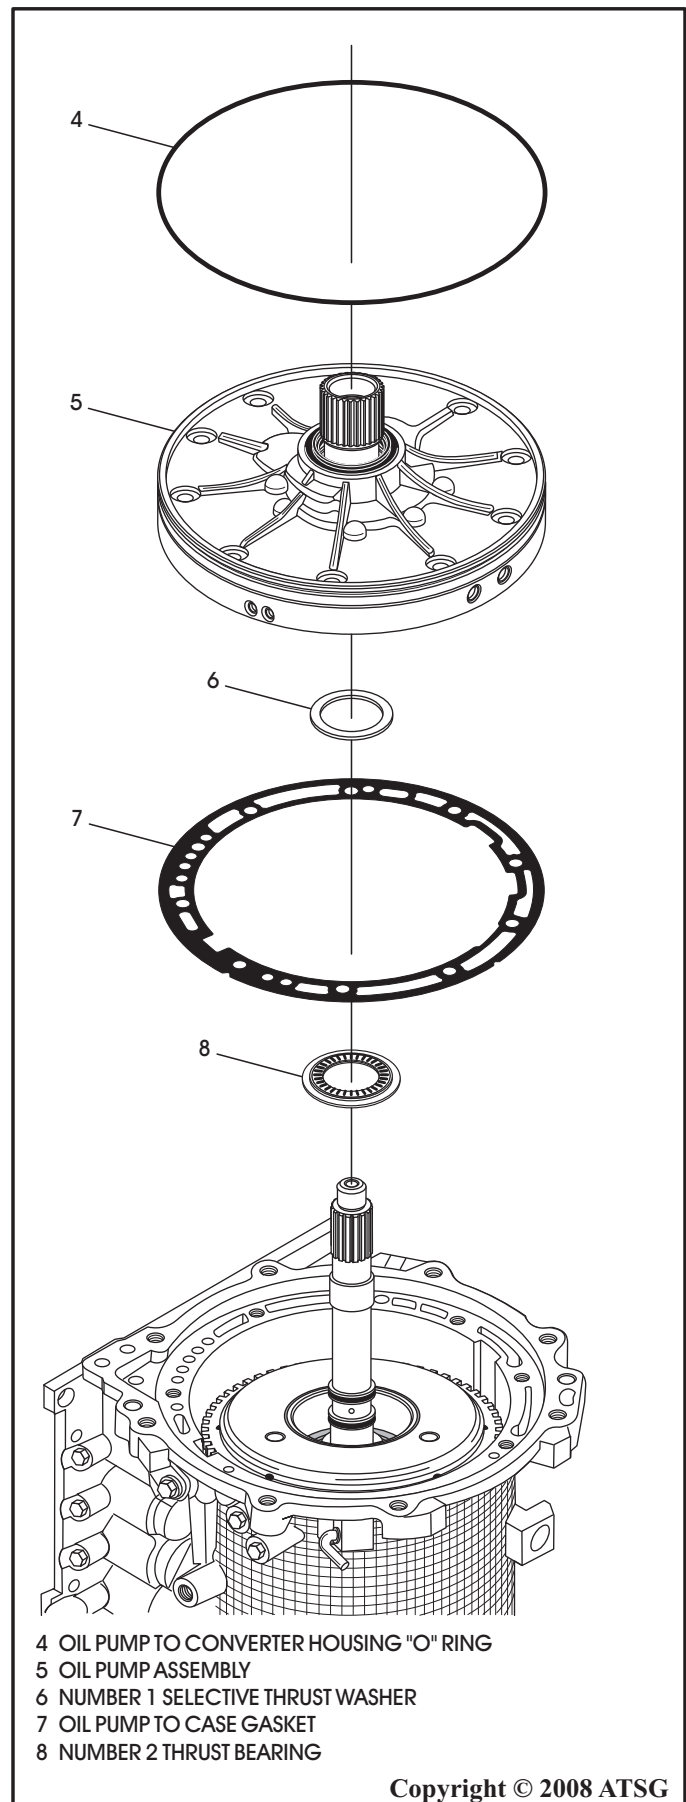

Figure 46
24. Remove the oil pump assembly from the case, as shown in Figure 46, remove and discard the oil pump to converter housing "O" ring seal.
25. Remove the number 1 selective thrust washer, as shown in Figure 46.
27. Remove and discard oil pump to case gasket, as shown in Figure 46.
28. Remove the number 2 thrust bearing from the overdrive/reverse clutch housing, as shown in Figure 46, just so we do not lose it during the cleaning process.